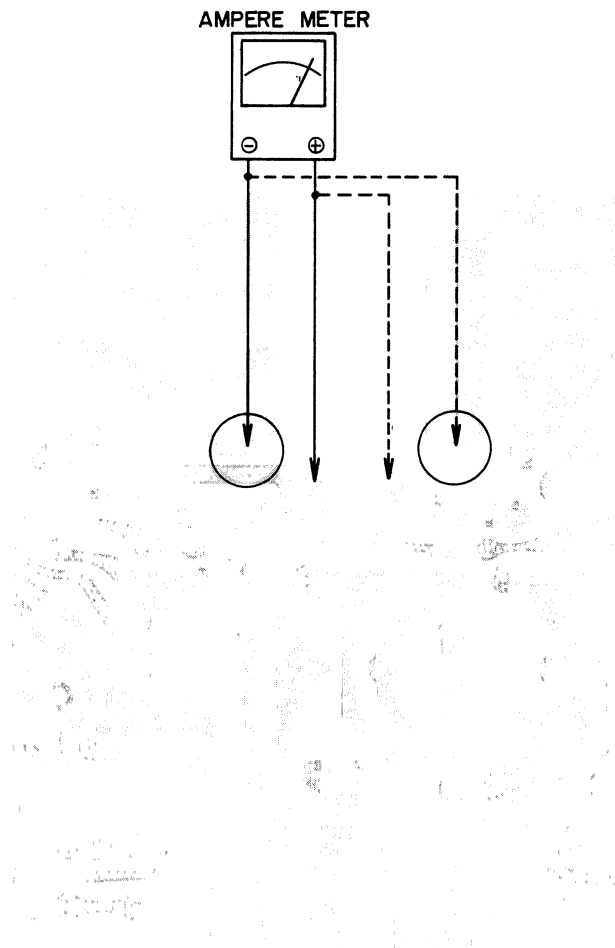

Fig. 18 ○ INDICATES SOLDERING POINTS
- 1) Remove solder from soldering point of Power Amp. P.C. Board shown in Fig. 18.
- 2) Connect a 50 to 100 mA scale Ampere Meter as shown in Fig. 18.